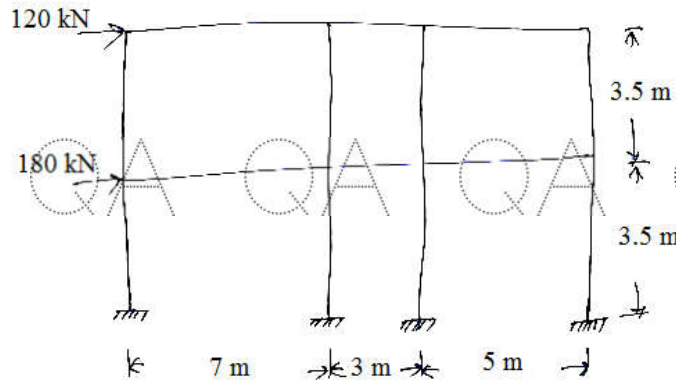

Figure 3
6. Analyze the building frame shown in Figure 3 by Portal frame method. Draw BMD. [10]